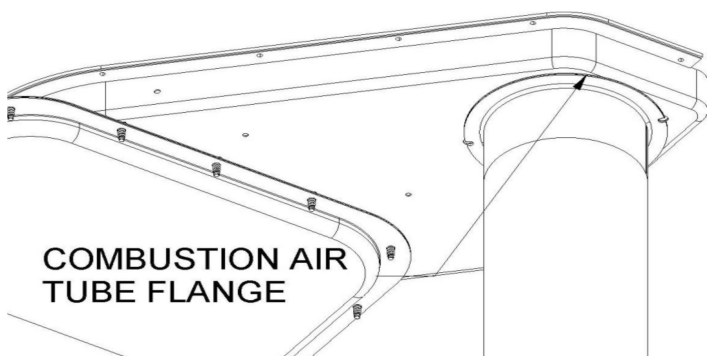

Figure 12: Four (4) Inch Combustion Air Tube Flange
8. Remove the three screws from the combustion pan cover. Refer to Figure 12.